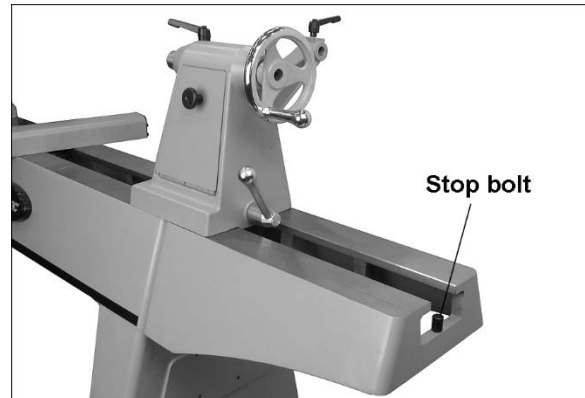

Figure 6-6: optional 20" bed extension
2. Have an assistant hold the bed extension flush to end of Lathe bed, and insert four 3/8 x 1-3/4 socket head cap screws with lock washers and flat washers (provided with extension bed) through top holes and lower slots in bed extension into threaded holes on Lathe. See Figure 6-6.
4. Slide tailstock over joint where beds meet, so that clamping nut is centered over joint (Figure 6-6). Lock tailstock clamping handle; this will align the beds.
- Unscrew stop bolt from Lathe bed (Figure 6-6), and screw it into hole at end of bed extension.
To remove headstock, tailstock or tool support base from bed, unscrew and remove stop bolt at either end (see Figure 6-6). NOTE: After re-mounting these items on the Lathe, always insert stop bolt.